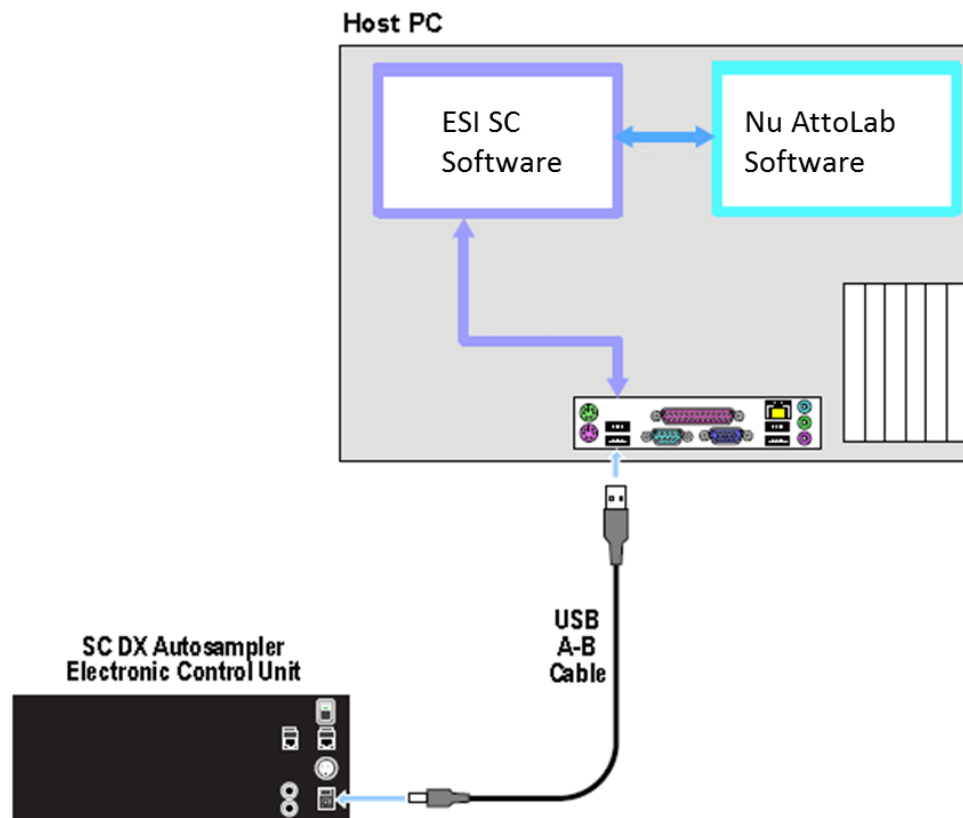

Figure 20: Connection options for Nu AttoLab and ESI SC with SC autosampler.
- 2) Connect the USB cable from the computer to the SC Autosampler. See Figure 20.